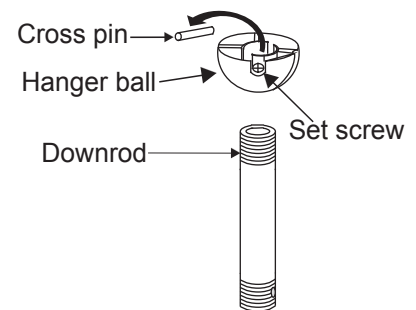

Fig. 7
Step 5. Remove the hanger ball from the downrod assembly by loosening the setscrew, removing the cross pin and turning the ball off the downrod. (Fig. 7)